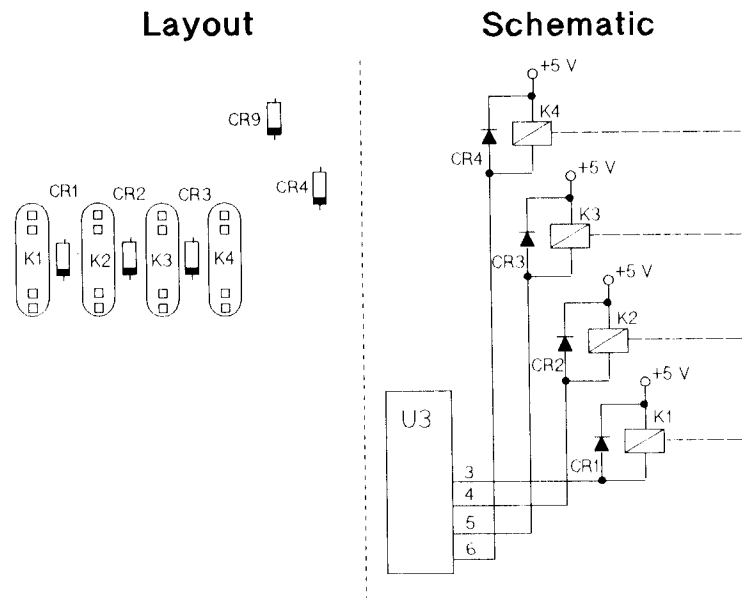

Figure B-5. CR1 - 4
- Figure B-5 shows the location of CR1 - 4 in the circuit and on the control board. Modify Figure 10.5-5 and Figure 10.5-8 accordingly.